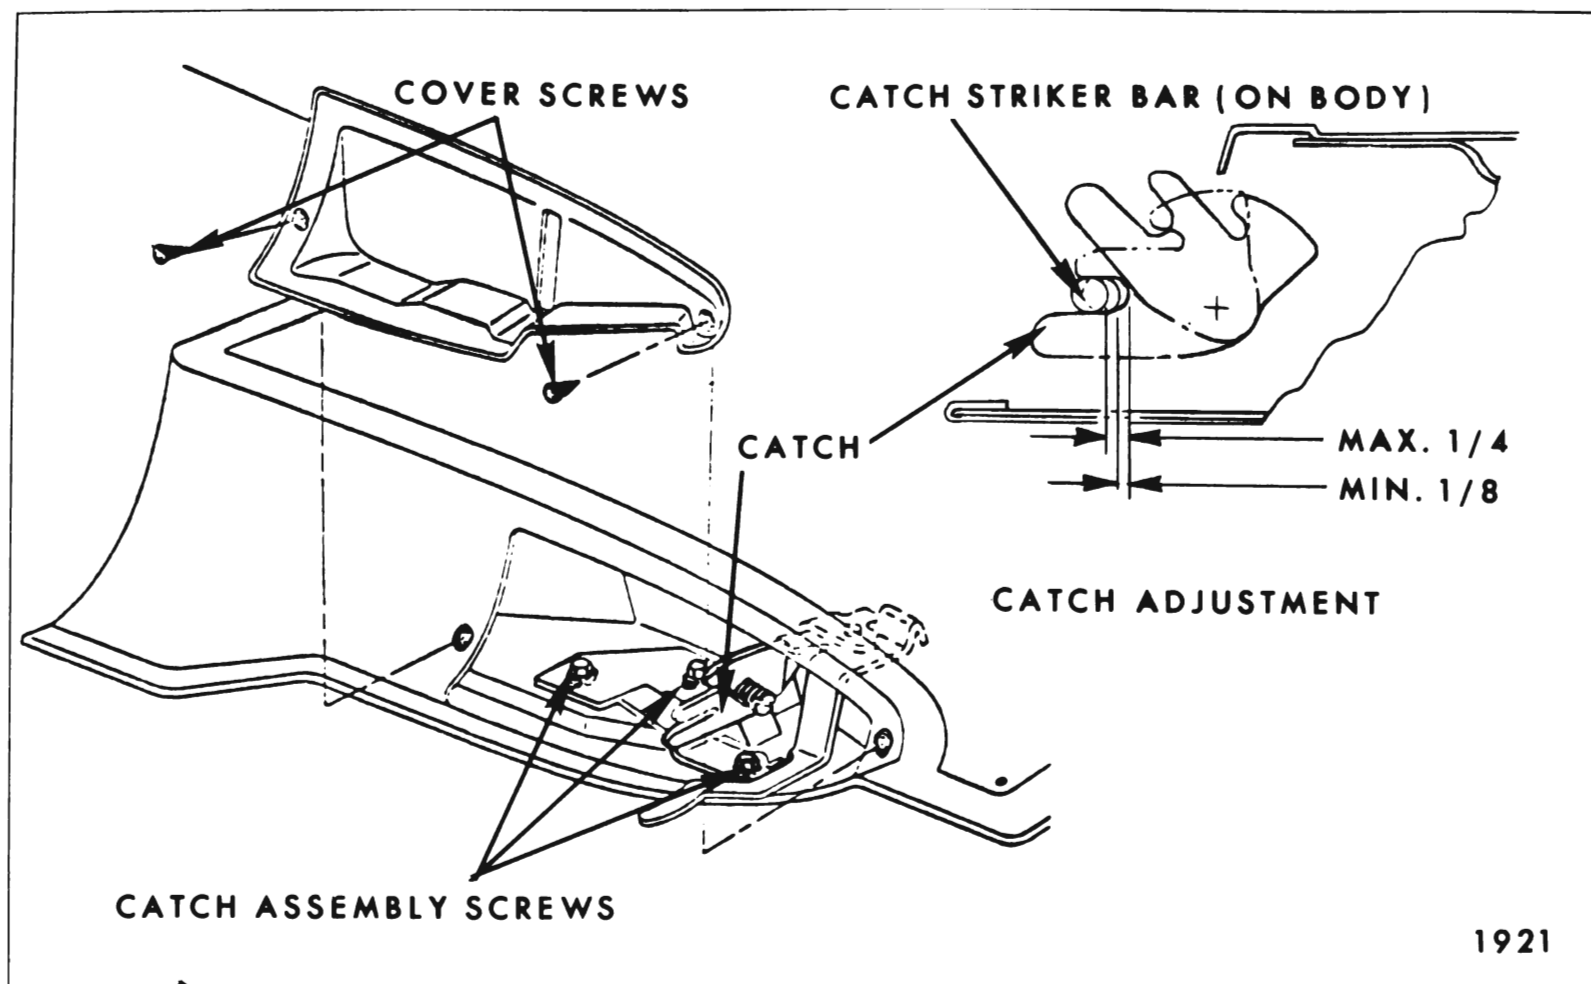

Fig. 10-60—Folding Seat Back Catch - All Pontiac "B" Styles
2. Remove catch cover screws and remove cover (Fig. 10-60).
3. Remove three screws securing catch to seat back frame and remove catch assembly from seat back (Fig. 10-60).
IMPORTANT: To assure proper operation of the folding second seat back the catch assembly should be installed and, where necessary, adjusted for a minimum gap of $1/64$ inch to a maximum gap of $3/16$ inch between bottom of slot in catch and catch striker when seat back is in full "up" position (Fig. 10-60).